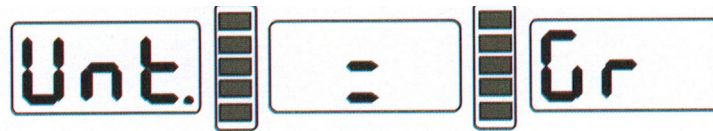

Fig. 12-1
1. Press STOP key and a+ key or a-, display ect figure 12-1, denotation is gram.